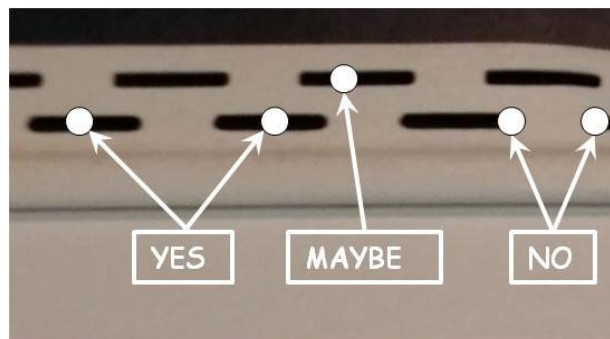

Figure 11-10. Nail Location in Siding Slots.
6. Always nail in the center of the slots in the lower row of slots and into a stud. Avoid nailing at angles: if a stud is not accessible from a slot in the lower row, use one of the offset slots in the upper row of slots (see Figure 11-10). If there is only a single row of slots, elongate the slot a smidge, using the slot tool, as necessary, to hit a stud. It’s permissible to SLIGHTLY angle the nail to hit a stud as long as the head does not protrude so far that it will be visible on the next course. **Always slide each piece of siding side-to-side ¼ - ½” after nailing to be sure there is adequate clearance for temperature changes.**